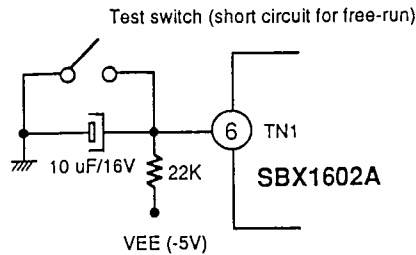
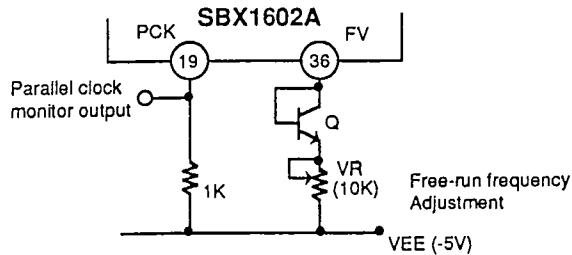

Fig. 9-6. Transient absorber time-constant
Fig. 9-7. Compensation on VCO temperature characteristics
TN1 (pin 6) is provided to switch the PLL circuit into a test mode where the VCO frequency can be freely varied in terms of a control voltage given between FV and V_{EE} (-5V power supply). In practice, TN1 is also used to avoid a PLL mislock the transitional period when power is supplied. Fig. 9-6. shows such an arrangement.
Although the VCO temperature characteristics are optimized for around 270MHz, a compensation in terms of an external diode as shown in Fig. 9-7. is recommended, particularly if the chip is used for the D2 PAL bit rate.
- (1) Keep the receiver, including the SBX1602A and associated circuits, switched on for at least 5 to 10 minutes in order to stabilize the thermal situation.
- (2) Close the switch connected to TN1 in Fig. 9-6. to maintain TN1 at ground potential and confirm that the PLL of the chip is set for free-run by changing the value of VR in Fig. 9-7.
- (3) Referring to Fig. 9-7, adjust the VR so that a frequency counter connected PCK can indicates,